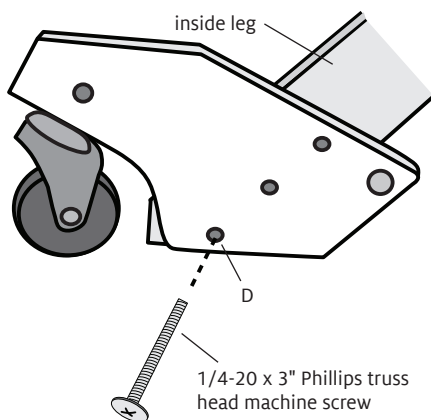

FIGURE 2: CASTER BLOCK AND INSIDE LEG
4. Set an unstickered caster block on the outer side of an inside leg, with the caster wheel toward the front and the floor (Figure 2, page 3). Line up hole [D] at the bottom of the block to hole [A] in the leg. Insert a 1/4-20 x 3" Phillips truss head machine screw through the caster block and the leg. Thread the machine screw into a barrel nut in the treadle support and tighten, using a slotted screwdriver to hold the barrel nut in position. Repeat with a second unstickered caster block and the other inside leg.